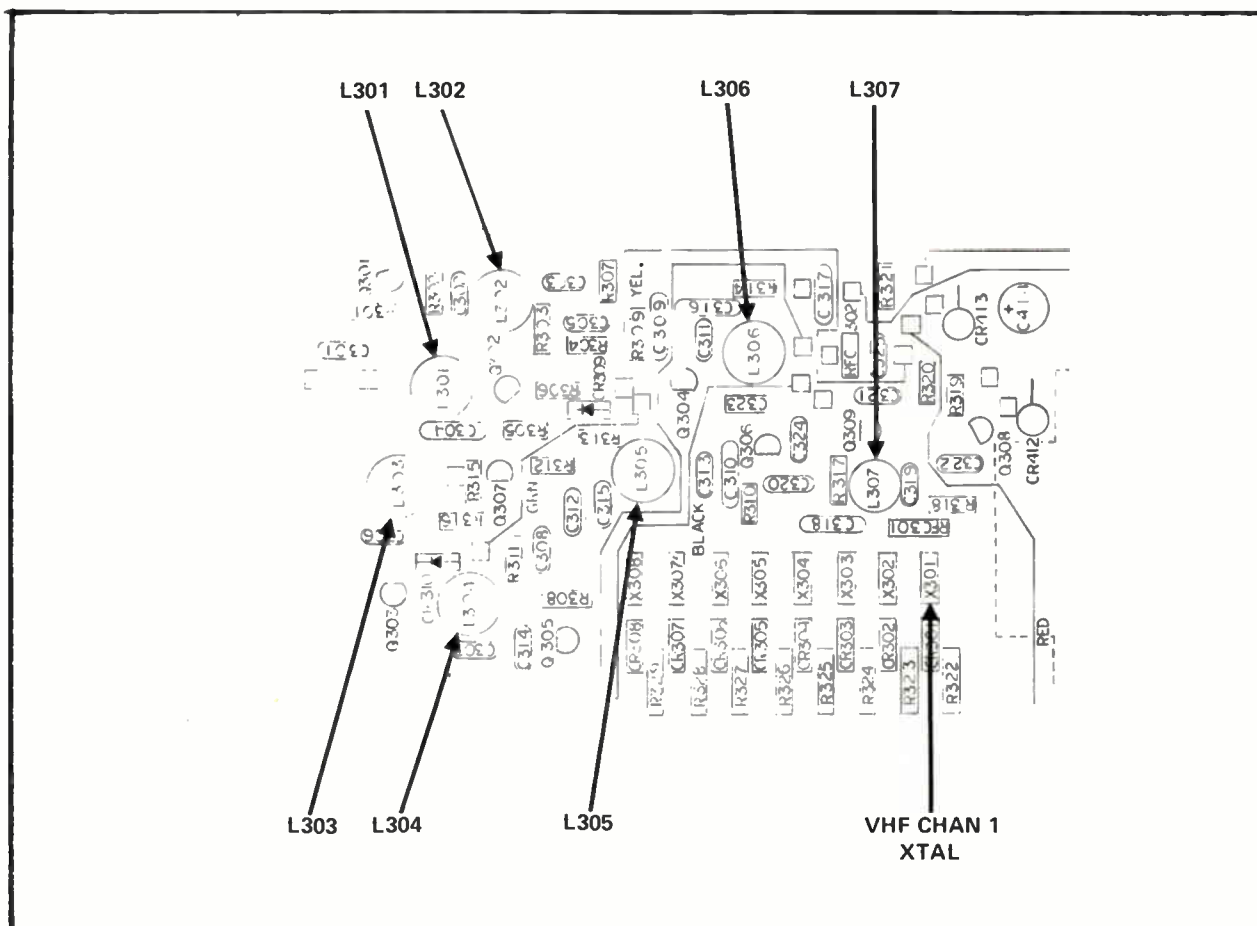
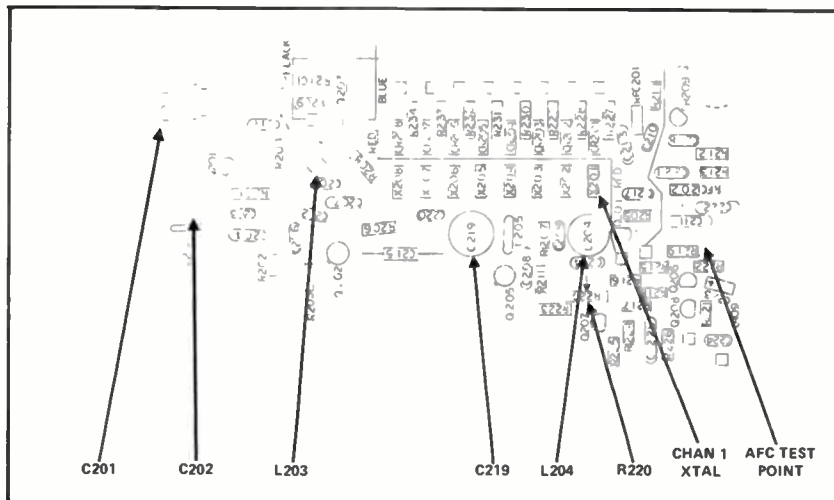

Figure 5-3. Main Board Tuning and Connecting Points for High and Low VHF Band Alignment
Figure 5-2. Main Board Tuning and Connecting Points for UHF Alignment
7. Adjust L203 (Figure 5-2) and L306 (Figure 5-3) for maximum indication on AC VTVM.
1. Install desired channel crystal in Channel 1 position (see Figure 5-2) and set Channel 1 band switch (on rear panel) to UHF position.
6. Set signal generator output level to approximately 1000 μ V and tune for maximum indication on RF voltmeter. Adjustment of L204 and C219 (Figure 5-2) may be necessary to obtain an indication on the RF voltmeter. Reduce the signal generator output level as required to maintain an RF voltmeter reading of approximately 0.3 volts.
7. Tune C201, C202, L204, and C219 (Figure 5-2) for maximum indication on RF voltmeter. Reduce signal level to maintain approximately 0.3 volts on RF voltmeter.
9. Connect VTVM to AFC test point (junction of R214 and R219, as shown in Figure 5-2) and ground. Set AFC control for a reading of 2.0 to 4.0 volts.
1. Install desired channel crystal in Channel 1 position (Figure 5-3) and set Channel 1 band switch (on rear panel) to HIGH position.
6. Tune L307, L305, L304, and L303 (Figure 5-3) for maximum indication on RF voltmeter. Reduce signal generator level as required to maintain approximately 0.3 volts on RF voltmeter during tuning.
1. Install desired channel crystal in Channel 1 position (Figure 5-3) and set Channel 1 band switch (on rear panel) to LOW position.
6. Tune L301 and L302 (Figure 5-3) for maximum indication on RF voltmeter. Reduce signal generator output level as required to maintain approximately 0.3 volts on RF voltmeter during tuning.